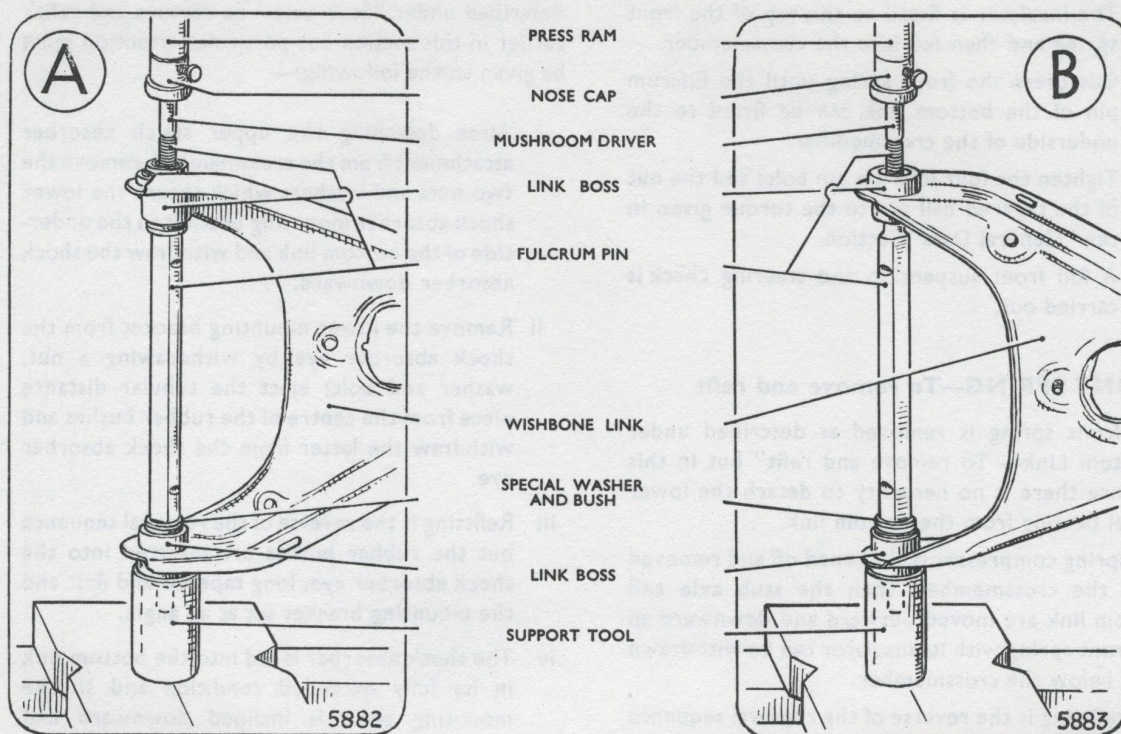

Fig. 31 Illustrating method of removing bushes from the links in a workshop press using special tool RG. 318
To remove link bushes (Fig. 31)
8. Proceed to remove the bush from the opposite side of the link. The procedure is similar to the first link but it will be necessary to temporarily refit the fulcrum pin with one of the special washers positioned between the link bush and the shoulder of the fulcrum pin, see Fig. 31 at "B."